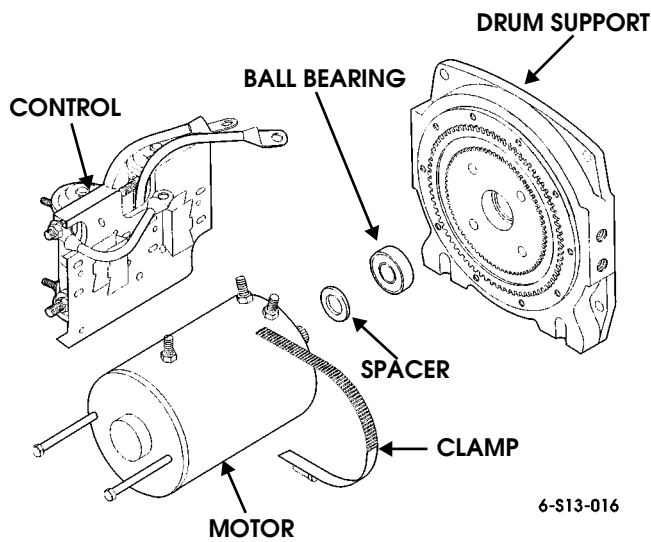

Figure 13-23: Control Unit and Motor
3. Loosen clamp and remove control from motor (Figure 13-23).